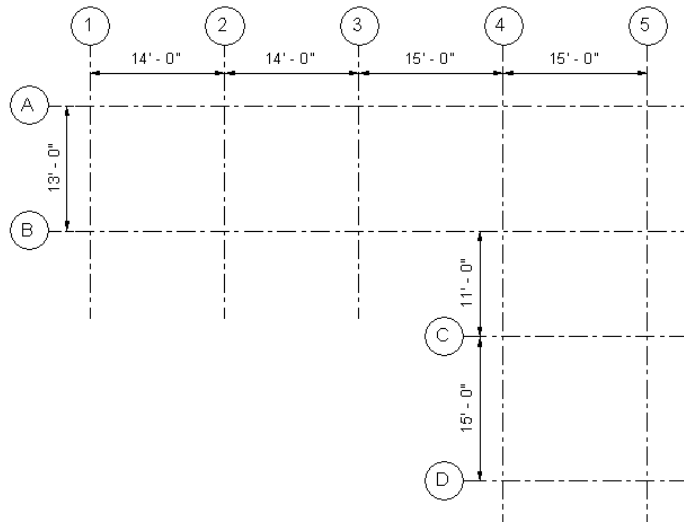

Figure 3-67 The grid lines with new names for the Factory Shed structure
In this exercise, you will add levels and grids to the project file created in Exercise 2 of Chapter 2. Refer to Figure 3-67 for grid dimensions and names. Use the following project specifications:
5. Grids to be added in the **Plinth** project view using dimensions and names, as shown in Figure 3-67.